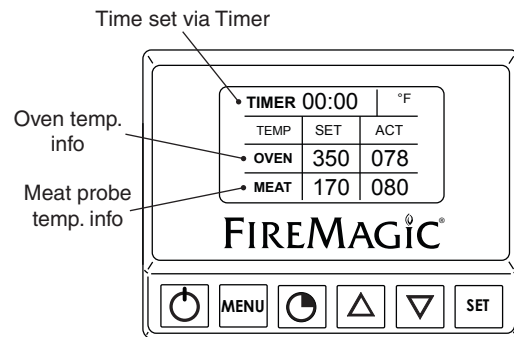

Fig. 28-3 Default screen detail
**Press the power button to turn the thermometer ON.** The default screen will be displayed. Temperatures for the oven and meat probe will be shown (see Fig. 28-3).